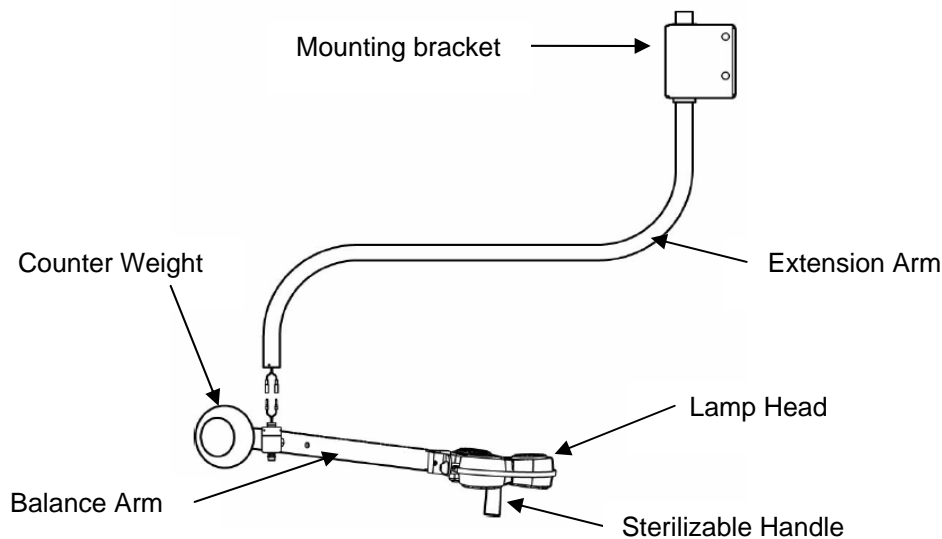

Figure 3: Celestial Star MRI Ceiling
2. Connect the male Molex connector with the female Molex connector and ensure that the positive latch on the connectors is achieved. Refer to Figure 3. Position the connection in such a way that the wires will not be compromised by securing the extension arm to the balance arm.